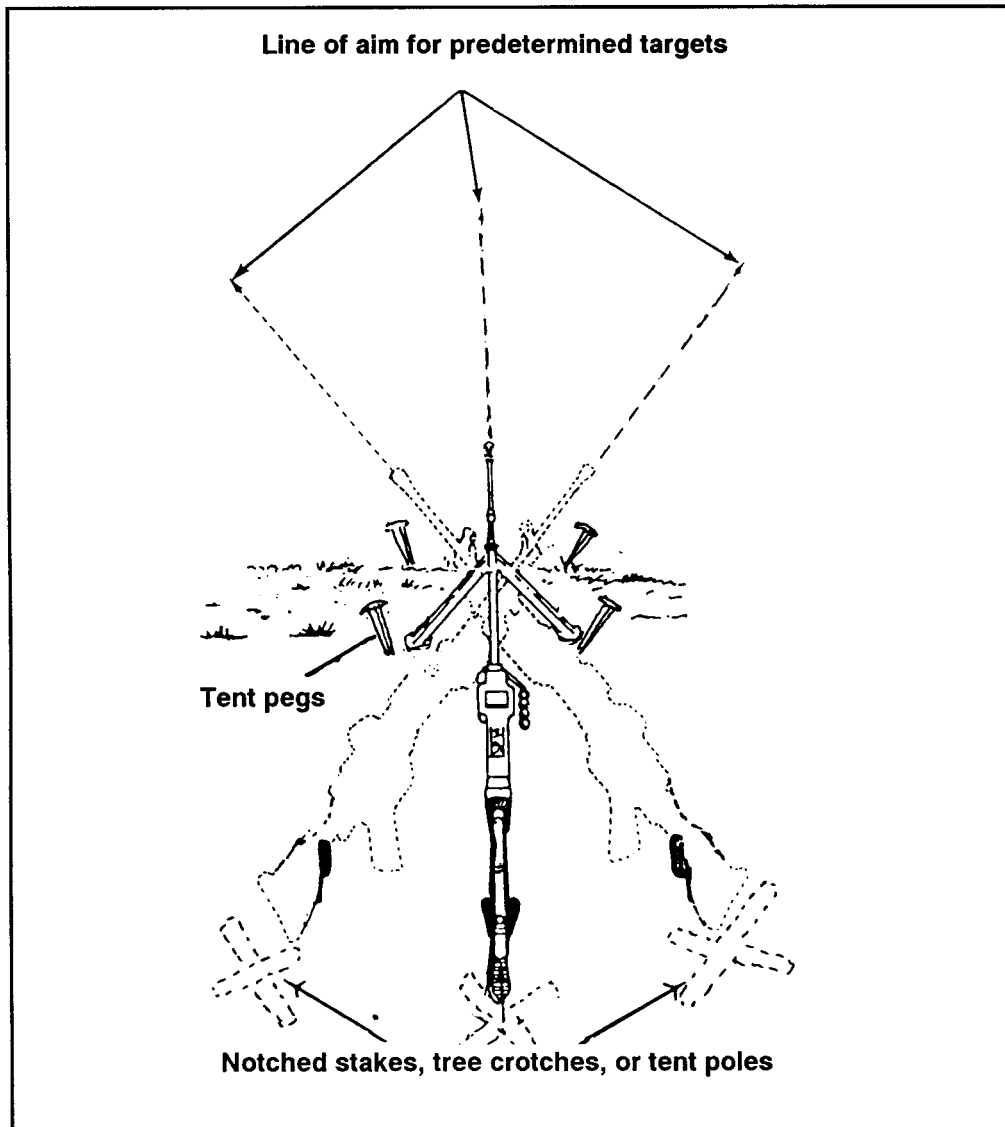

Figure 6-21. Notched-stake or tree-crotch technique of engaging predetermined targets.
(1) The automatic rifleman uses the notched-stake or tree-crotch technique (Figure 6-21) to engage predetermined targets within a sector or to define sector limits. This method is effective during all conditions of visibility, and it requires little additional material.
(3) To better control the weapon within his sector, he drives tent pegs in the ground in front and behind the feet of the bipod legs where he can rotate the weapon from left to right or vice versa (Figure 6-21).